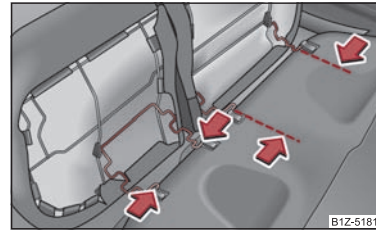

Fig. 52 Removing seat cushions
- Press the wire clamps in the direction of the arrow ⇒ fig. 52 and remove the seat cushion from its holder.